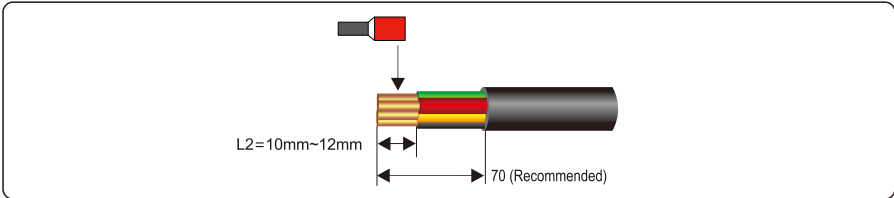

Figure 5.4 Stripped length (unit: mm)
Step 1 Remove an appropriate length of the jacket and insulation layer from the AC output cable by using a wire stripper, as shown in Figure 5.4.